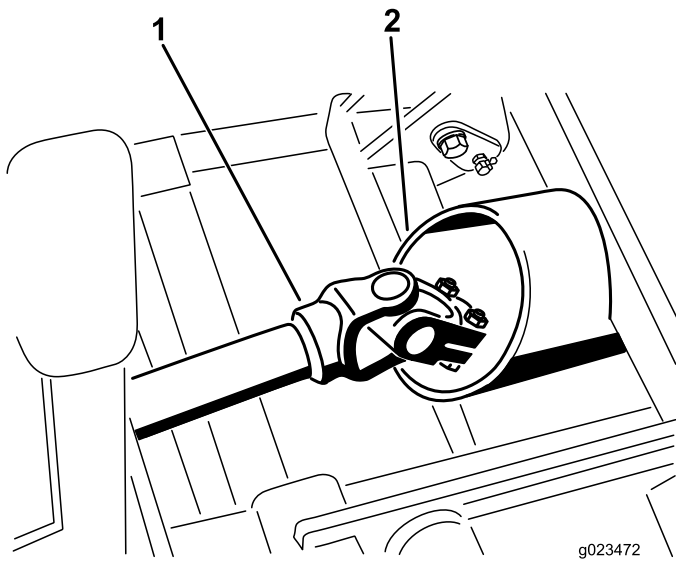

Figure 17
4. Carefully roll the winter-frame assembly into position while routing the drive shaft through the frame tube (Figure 17).